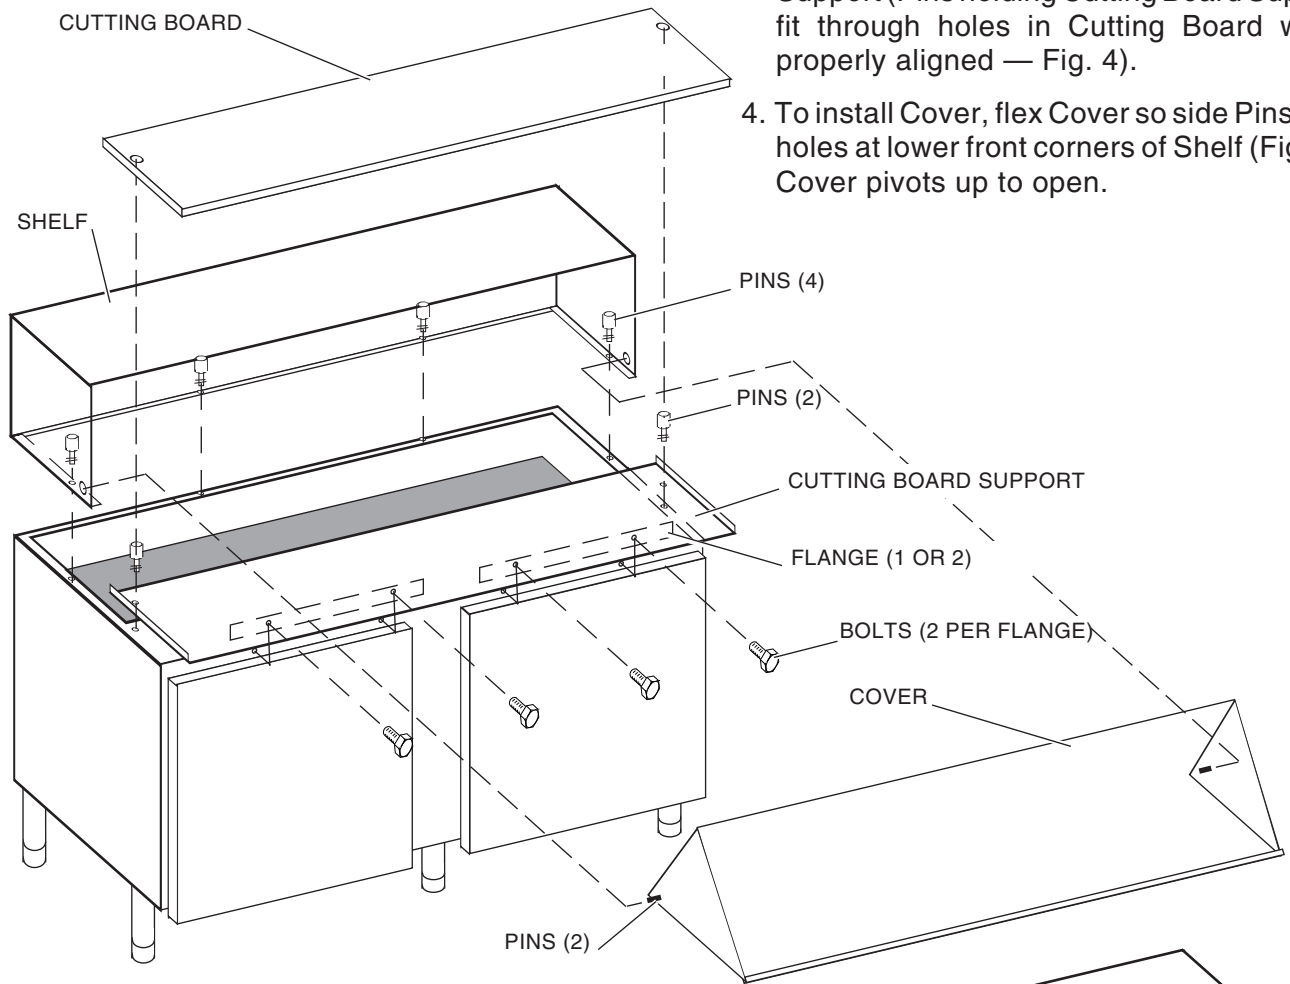

Fig. 4
SANDWICH PREP TOP ASSEMBLY (Figs. 4, 5)
1. Place the Shelf on top of the rear of the unit. Secure by screwing four threaded Pins through base of Shelf and top of unit (Fig. 4).
2. Install Cutting Board Support. Secure with two threaded Pins and two Bolts per Flange (Fig. 4) (wider units may be equipped with an additional third Pin in the center).
3. Assemble Cutting Board to Cutting Board Support (Pins holding Cutting Board Support fit through holes in Cutting Board when properly aligned — Fig. 4).
4. To install Cover, flex Cover so side Pins fit in holes at lower front corners of Shelf (Fig. 4). Cover pivots up to open.